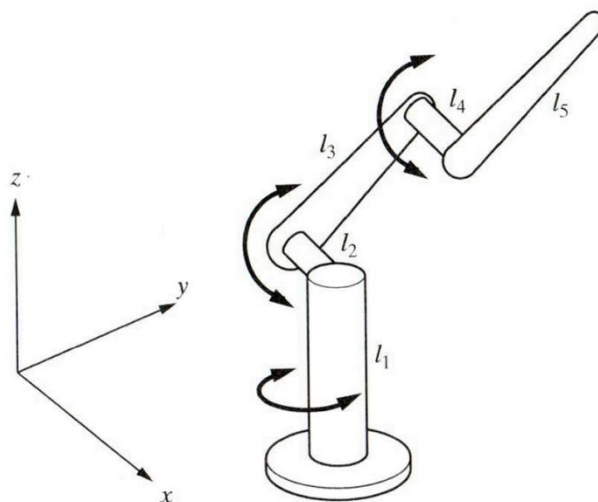

Figure 4(a)
- (b) From the robotic arm layout given in Figure 4(a), extract the D-H parameter values and provide the values of matrix 0T_3 . Use appropriate assumptions for the moving frames and others values needed to simplify the analyses.